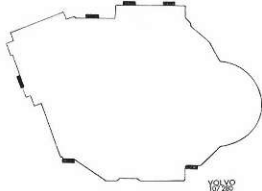

Fig. 8-77. Placings clamps for middle connector
9. Fit the left half. When assembling use clamps with part No. 676234, which are fitted with pliers as shown in Fig. 8-61. Concerning the location of these clamps, see Fig. 8-77.